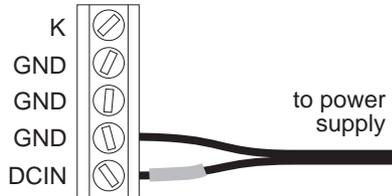

Figure 2-1. Wiring PK2600 Power Supply Connector
1. Remove the green power connector shown in Figure 2-1 from the back of the PK2600.
2. Attach the bare leads from the power supply to the power connector as shown in Figure 2-1.